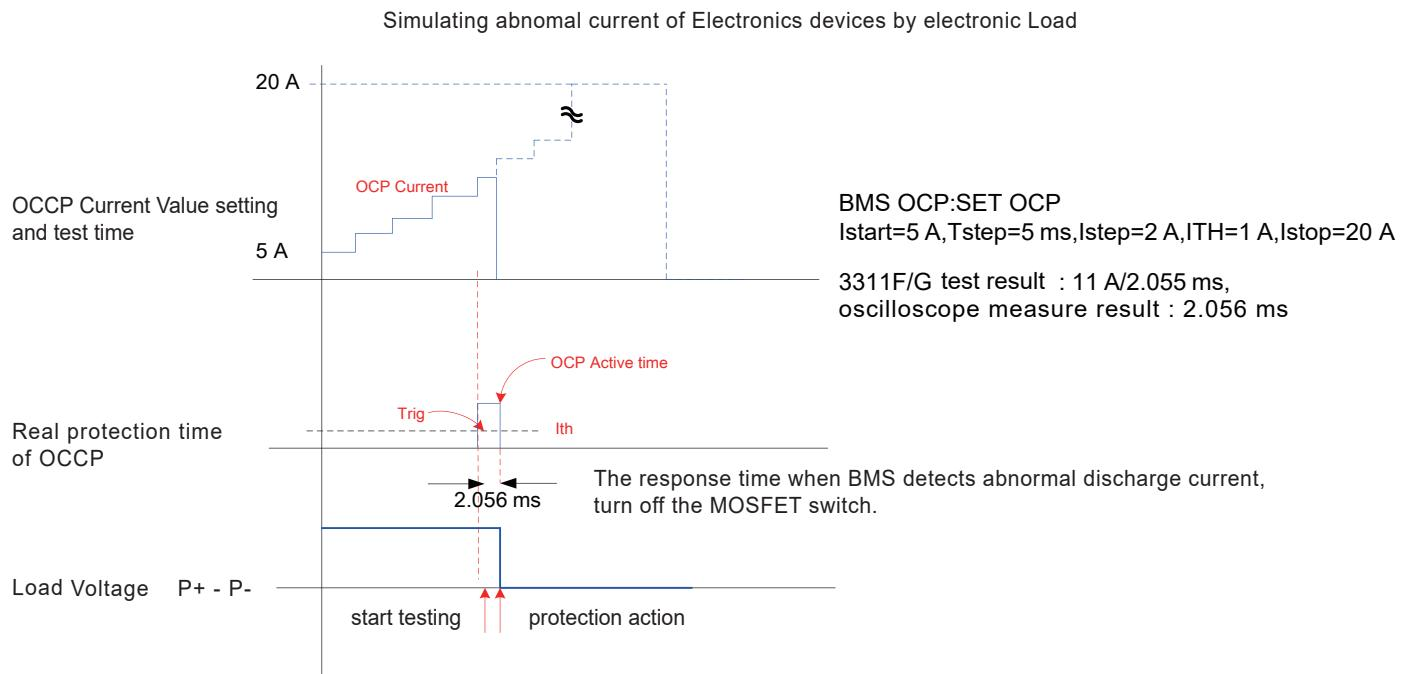

Figure 13 3311F/G with BMS for over current discharge test procedure ( continuous STEP pulse )
4.2 Continuous step Pulse : The actual over current protection point when scanning discharge OCDP (Over Current Discharge Protection) Test Procedure, Figure 13 is 3311F/G continuous pulse current BMS over discharge current test procedure, and FIG. 14 is the actual test Results. In the left is the oscilloscope current waveform of BMS over discharge current protection, in the right is the actual test of 3311F/G with BMS for over discharge current value and the response time.